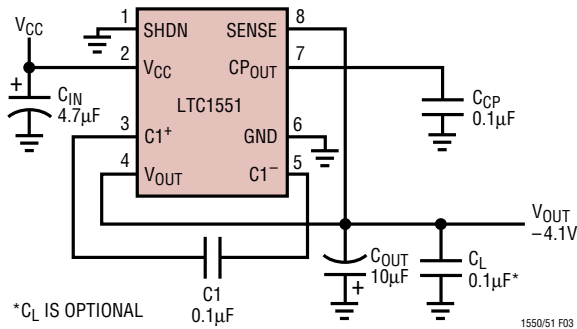
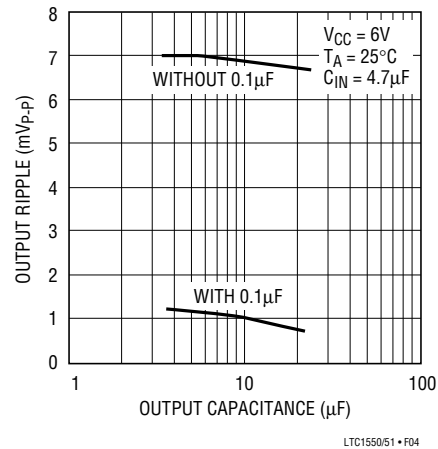
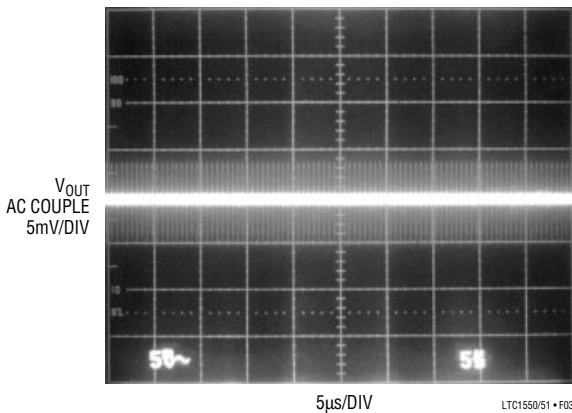

Figure 2. Output Ripple Test Circuit
Figure 3. Output Ripple vs Output Capacitance
Figure 4. Output Ripple with  $10\mu\text{F}$  Tantalum Capacitor
**Load Transient Response (See Figure 2, VCC = 5V)**
**Line Transient Response (See Figure 2, IL = 10mA)**
**Output Spectrum (See Figure 2, COUT = 10µF)**
(See Figure 2,  $C_{OUT} = 10\mu\text{F}$ )
(See Figure 2,  $C_{OUT} = 22\mu\text{F}$ )
Figure 3 shows the effect of using different output capacitor values on LTC1550/LTC1551 output ripple. These curves are taken using the circuit in Figure 2, with  $C_{IN} = 4.7\mu\text{F}$  and  $I_{LOAD} = 5\text{mA}$ . The upper curve shows the performance with a standard tantalum capacitor alone and the lower curve shows the tantalum capacitor in parallel with a  $0.1\mu\text{F}$  ceramic capacitor. As a general rule, larger
Figure 3 shows a marked decrease in peak-to-peak output ripple when a  $0.1\mu\text{F}$  ceramic capacitor added in parallel with the tantalum output capacitor. The additional ripple with the tantalum output capacitor alone is mostly very high order harmonics of the  $900\text{kHz}$  clock, which appear as sharp "spikes" at the output. The energy in these spikes is very small and they do not contribute to the RMS output voltage, but their peak-to-peak amplitude can be several
millivolts under some conditions. A garden variety  $0.1\mu\text{F}$  ceramic capacitor has significantly lower impedance at the spike frequency than even a large tantalum capacitor, and helps eliminate most of these left-over switching spikes that the tantalum capacitor leaves behind. Figure 4 and 5 show scope photos of the output of Figure 3 with and without the additional ceramic capacitor at the output.
switches, causing the output linear regulator to momentarily stop regulating.  $C_{\text{IN}}$  should be mounted as close to the LTC1550/LTC1551 as possible and its value should be significantly larger than  $C_1$ . Tantalum capacitors with low ESR generally provide adequate performance. Figure 6 shows the LTC1550/LTC1551 peak-to-peak output ripple vs  $C_{\text{IN}}$ , taken using the test circuit in Figure 2 with  $I_{\text{LOAD}}$  set at  $5\text{mA}$ .  $C_{\text{OUT}}$  is a  $10\mu\text{F}$  in parallel with a  $0.1\mu\text{F}$  ceramic capacitor.